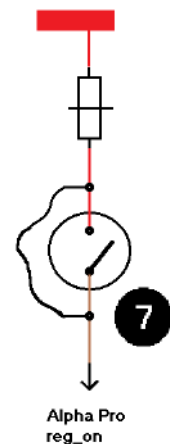

Figure 13: jump wire
2. Bridge the engine run contact by connecting a jump wire, see fig. 13.